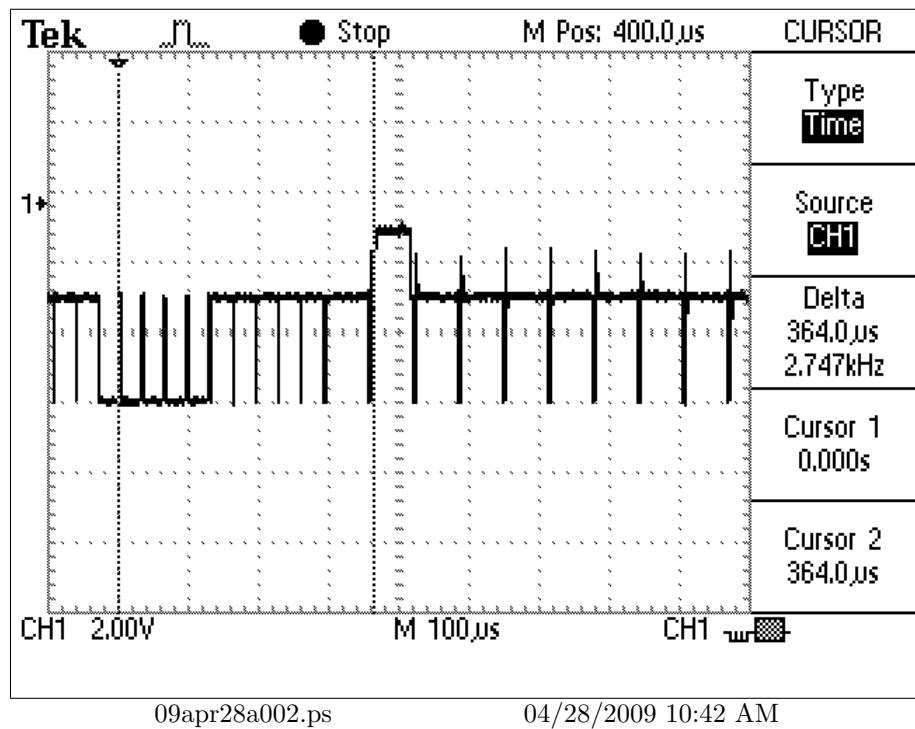
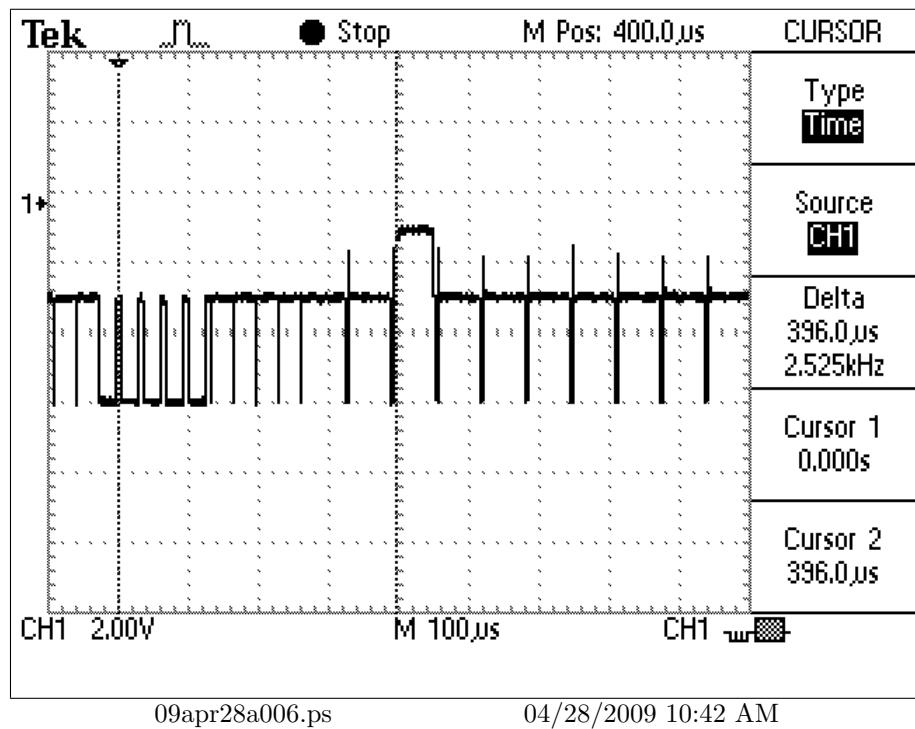
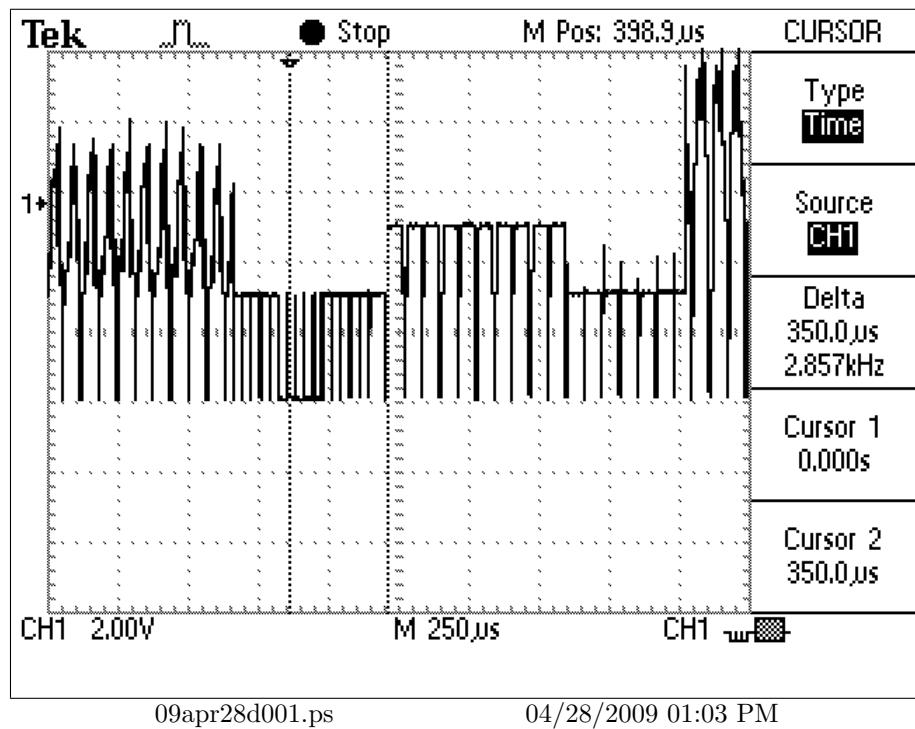
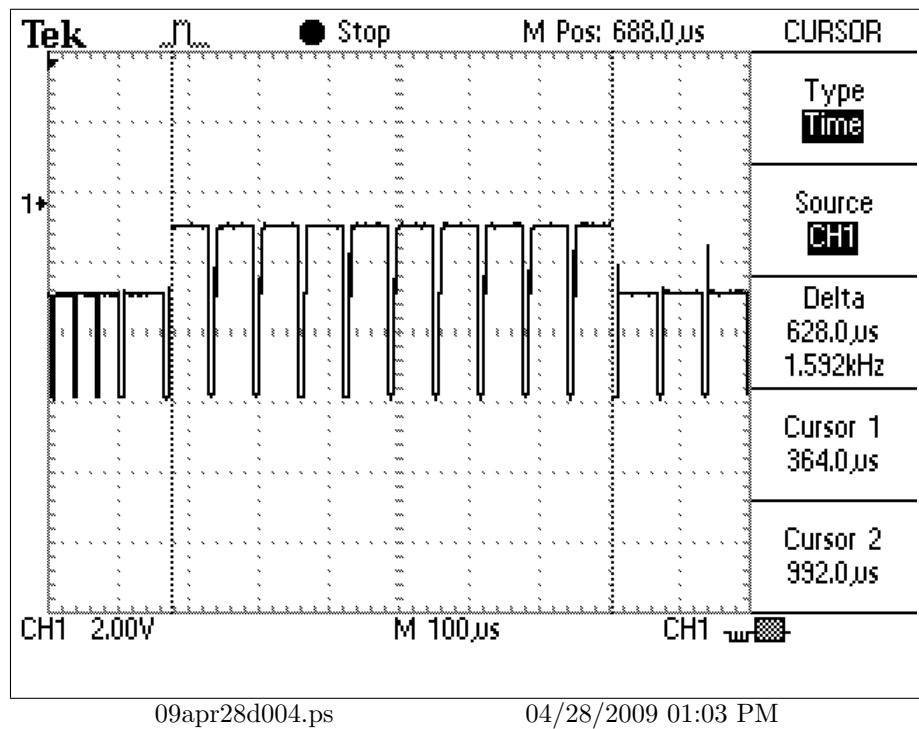

Figure 1: Camera and “Data Spot”, “Prime Field”, capture 1
Figure 3: Camera and “Data Spot”, “Alternate Field”, improved timing, capture 1
Figure 15: Full empty data block with a camera and head-end connected, capture 6
Figure 17: Duration of a full empty data block, expanded, capture 6
5. The sync point (Figure 1, page 4) on the oscilloscope that was used here was not at the start of a field, but is offset somewhat. However the offset is consistent with all captures.
6. There is a location in each field (Prime and Alternate fields) marked out for data. (Figure 1, page 4, Figure 3, page 6)
9. When the camera (LTC0620/11) and converter (VP-RS2BLNX) are connected together, the area “blocked out” for data changes from one line to ten lines. (Figure 1, page 4, Figure 15, page 18 and Figure 17, page 20)